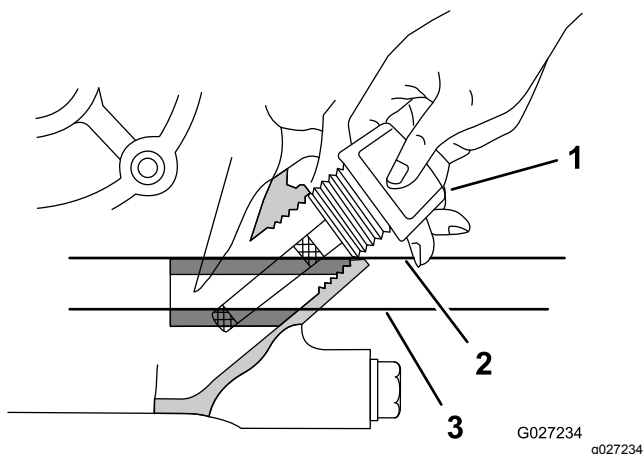

Figure 8
4. Remove the dipstick from the engine and wipe the dipstick with a clean rag (Figure 8).
6. Remove the dipstick from the filler neck and look at the oil level in the dipstick (Figure 8).
Note: The engine oil level must cover between the hatch marked areas on the dipstick (Figure 8).
8. Hand tighten the dipstick into the filler neck (Figure 8).
5. Insert the dipstick from the engine as shown in Figure 8.